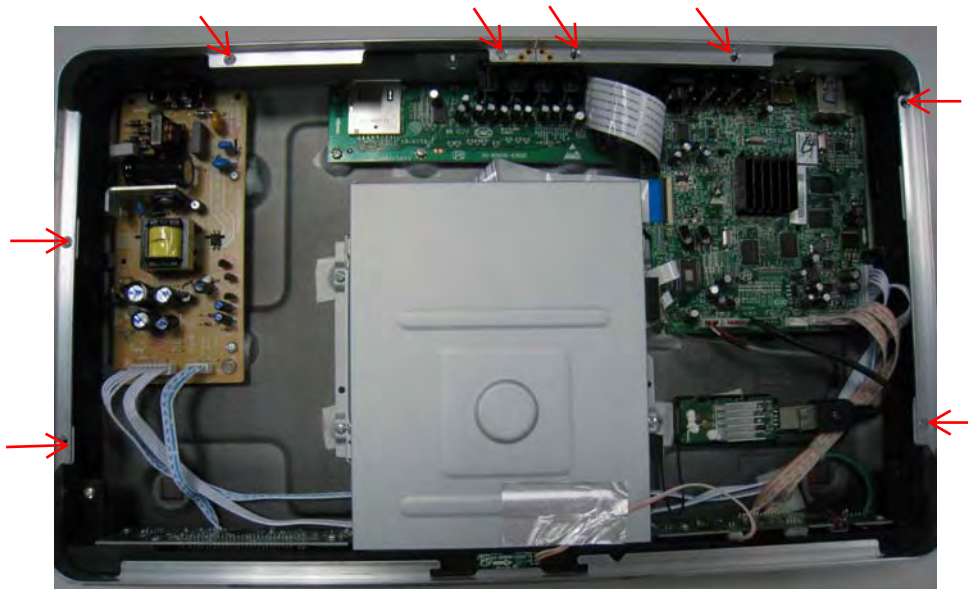
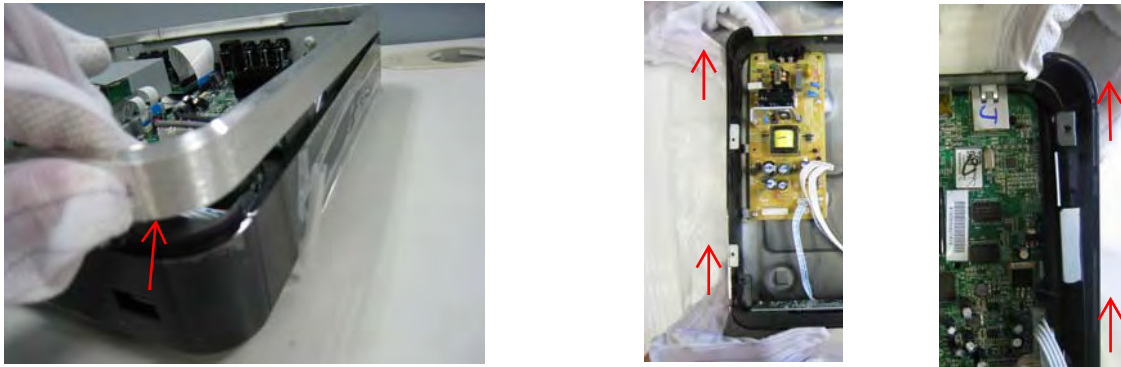

Figure 2
Figure 3
Step3: Remove 8 screws around Aluminum loop(Figure 2). Then remove the aluminum loop.(Figure 3)
Then remove the left and right lens,need to release 3 snaps of each len,you can make it throught the instructions as below(Figure 3):